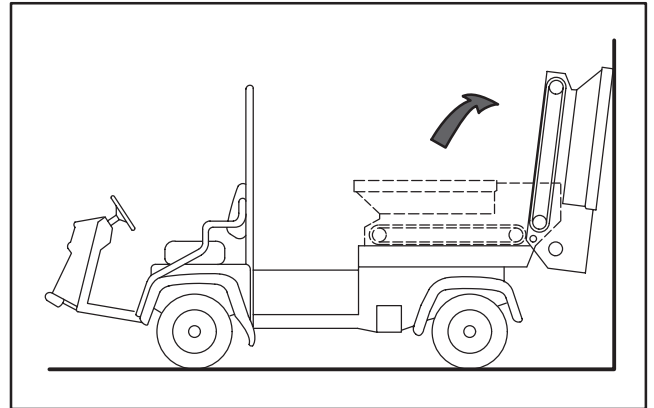

Figure 28
5. Pivot hopper rearward and lean against wall, ladder, etc. Do not allow hopper to rest against rear of machine as damage may result to brush or hydraulic couplers (Fig. 28).
Important Make sure hopper is pivoted beyond center and/or secured to wall or post to prevent it from accidentally falling on work area (Fig. 28).